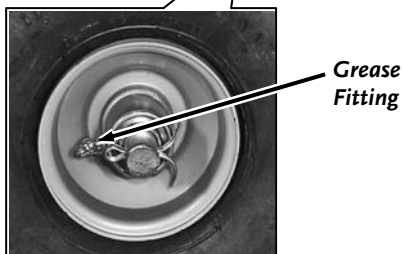

Figure 11
1. Grease the fittings on the front Caster Wheels (**Figure 11**).